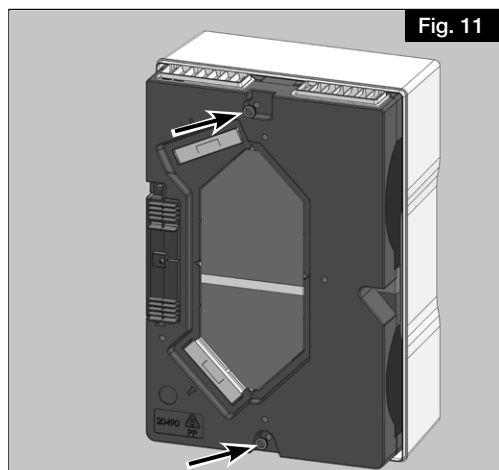

Fig. 11
6. Tighten the two knurled nuts by hand (see Fig. 11).